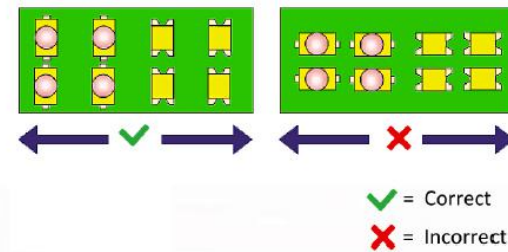

Fig. 10
6. Mounting direction of SMD components should be placed perpendicular to the direction of PCB travel. This will ensure the solder wets on each lead simultaneously during reflow and prevent shifting of LEDs. Refer to below diagram (Fig.10) for examples of recommended mounting direction.